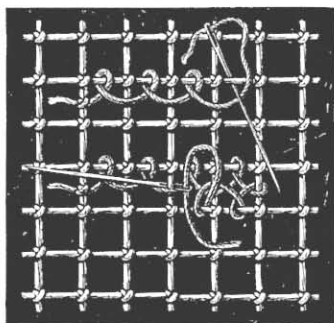

Fig. 19. Straight loop stitch.
**Loop stitch** (figs. 19, 20, 21). — Loop stitch is generally used to make a more transparent ground than can be obtained with linen stitch.
For the straight kind fasten the thread to the middle of a vertical bar of the net, then make a loop reaching to the middle of the next horizontal bar (fig. 19). These loops are always made from left to right; the thread must be laid to the right and the needle passes downwards from above under the bar and in front of the thread. The length of the loop must be half the height of the bars of the net.